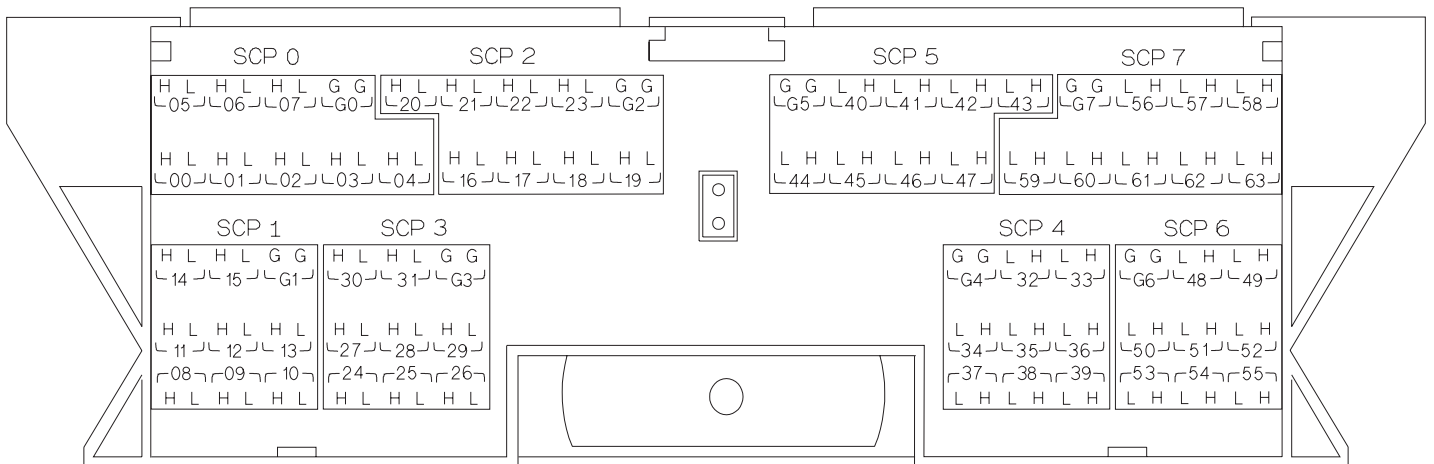

Figure 4: Agilent/HP E1413B Option 11 Terminal Module Connections
- For Agilent/HP E1413B and below Terminal Modules, use stickers for Agilnet/HP E1413B Option 11 SCPs. The connections are shown in Figure 4.